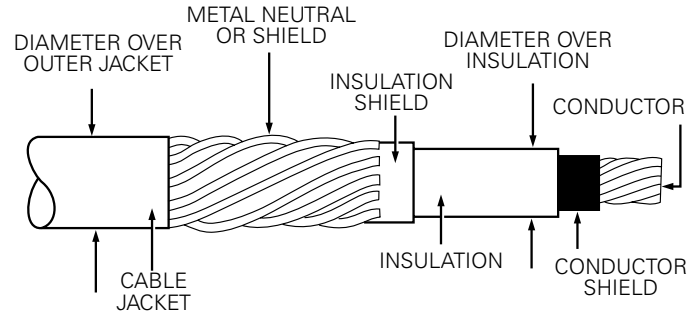

Figure 3. Illustration showing typical construction of high voltage underground cable.
STEP 1: Determine the cable’s diameter over the insulation as shown in Figure 3 (including tolerances) from the cable manufacturer. Then identify a cable range from Table 3 that brackets the minimum and maximum insulation diameters. Select the CABLE RANGE CODE from the far right column.